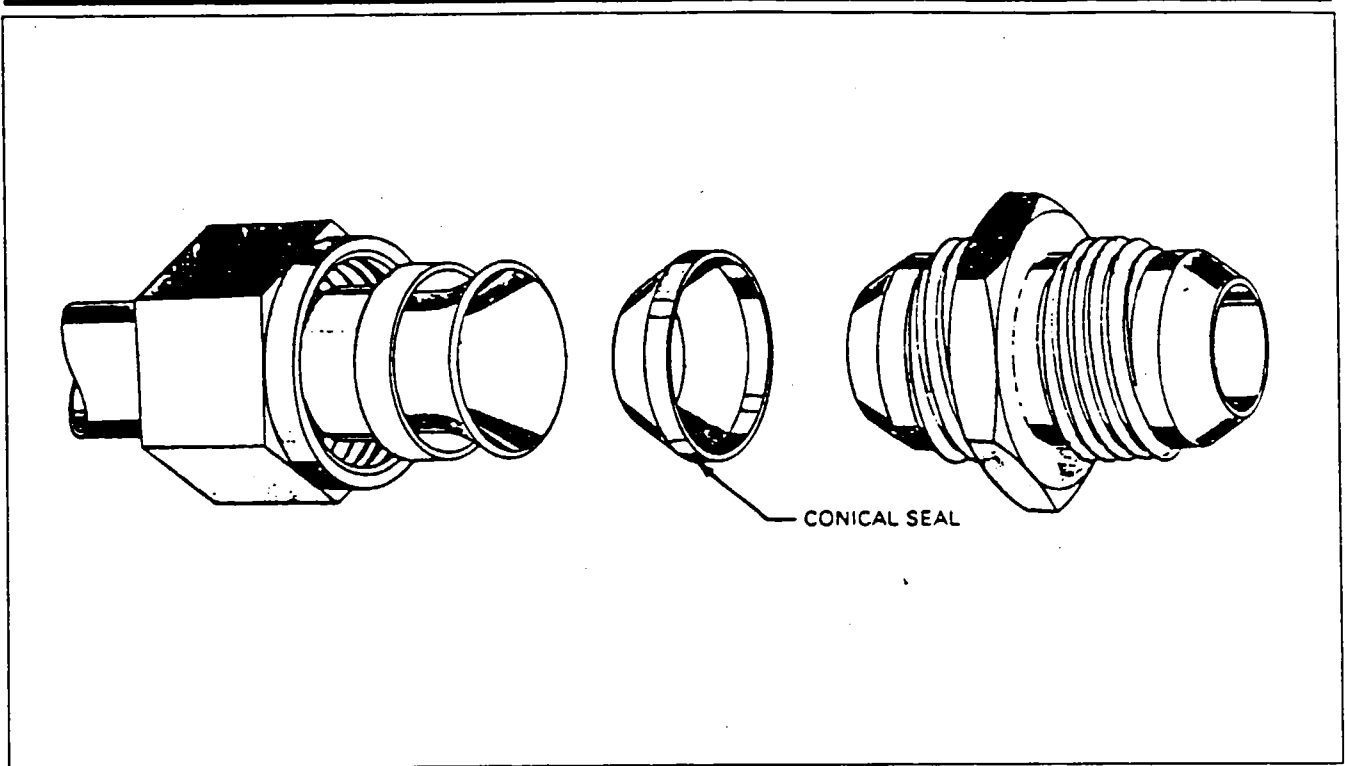

Figure 21-34. Installation of Seco 7 Seals
3. Flared fittings are sometimes difficult to seal on the hard-to-get fittings: it may be necessary to install Seco 7 seals. (Refer to Figure 21-34.) Install Seco 7 seals as follows: